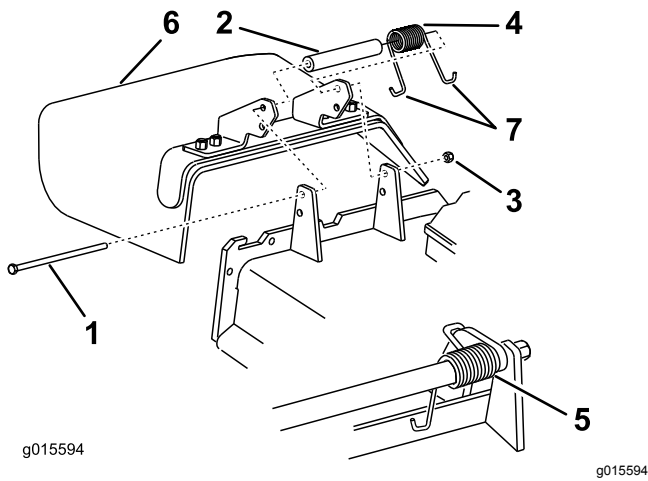

Figure 103
1. Remove the locknut, bolt, spring, and spacer holding the deflector to the pivot brackets (Figure 103).
Note: Ensure that a J-end of spring is installed behind deck edge before installing the bolt as shown in Figure 103.
5. Place a J-hook end of spring around grass deflector (Figure 103).